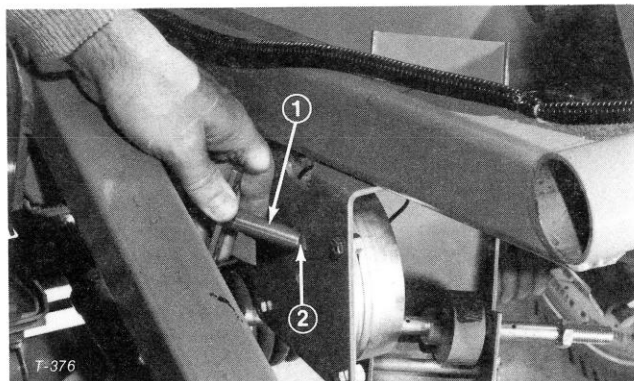
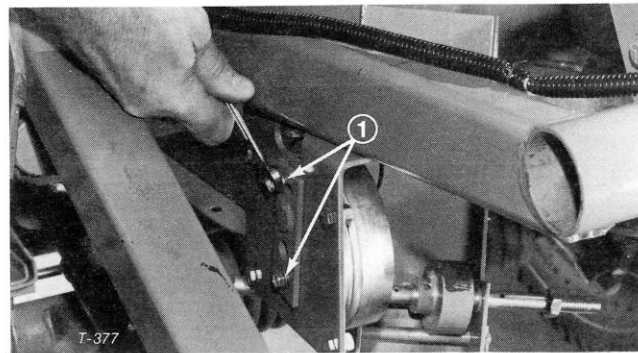

Figure 22
Figure 23
10. Install end of shaft assembly through slotted hole in frame bracket (Fig. 22) and secure loosely to bracket with two capscrews (Fig. 23).